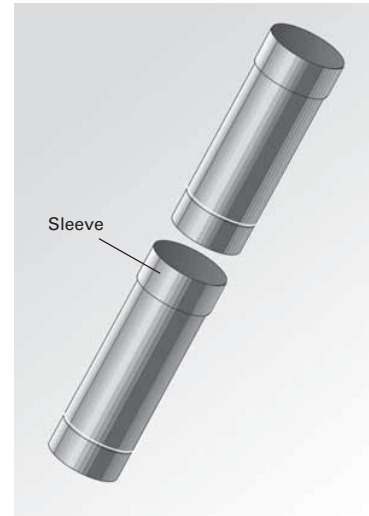

Fig. 42 Stainless steel exhaust pipe
g) **Always** fit exhaust pipes together with the **sleeve pointing upwards** (smaller diameter end of stainless steel flue accessory fits exactly onto flue outlet in FireWIN), so that any condensation flowing back cannot leak out of the exhaust pipe – Fig. 42.